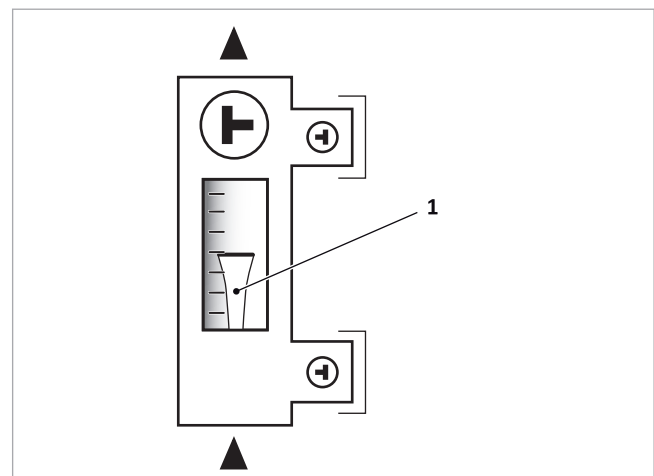

Fig. 130: Read the volume flow at the upper edge of the float (1)
2. Connect the pressure hose for the flushing and filling station (FFS) to the BFD valve (6) of the flow meter and open the BFD valve.
3. Switching on and flushing the flushing pump: FFS → BFD valve (6) → primary pump → collector field → solar heat transfer station to BFD valve (5) → FFS
5. Bleed the solar circuit again by building up and releasing pressure. To do so, close and open the BFD valve (5) two to three times.
6. If Tyfocor exits without any bubbles, close the BFD valve (5) and increase the system pressure to 4 bar.
7. Close the BFD valve (6) and switch off the FFS pump. Check the system to ensure that there are no leaks.
8. Bleed the deaerator (7).
9. Fully open the cap valve (3).
10. Set the system pressure to the calculated operating pressure by slowly opening the BFD valve (5). Rule of thumb: MEV admission pressure + 0.3 bar.
11. Set the flow meter to the flow position (see → Fig. 130, Page 60), close the BFD valves (5) and (6), remove the SBS and screw on the caps.